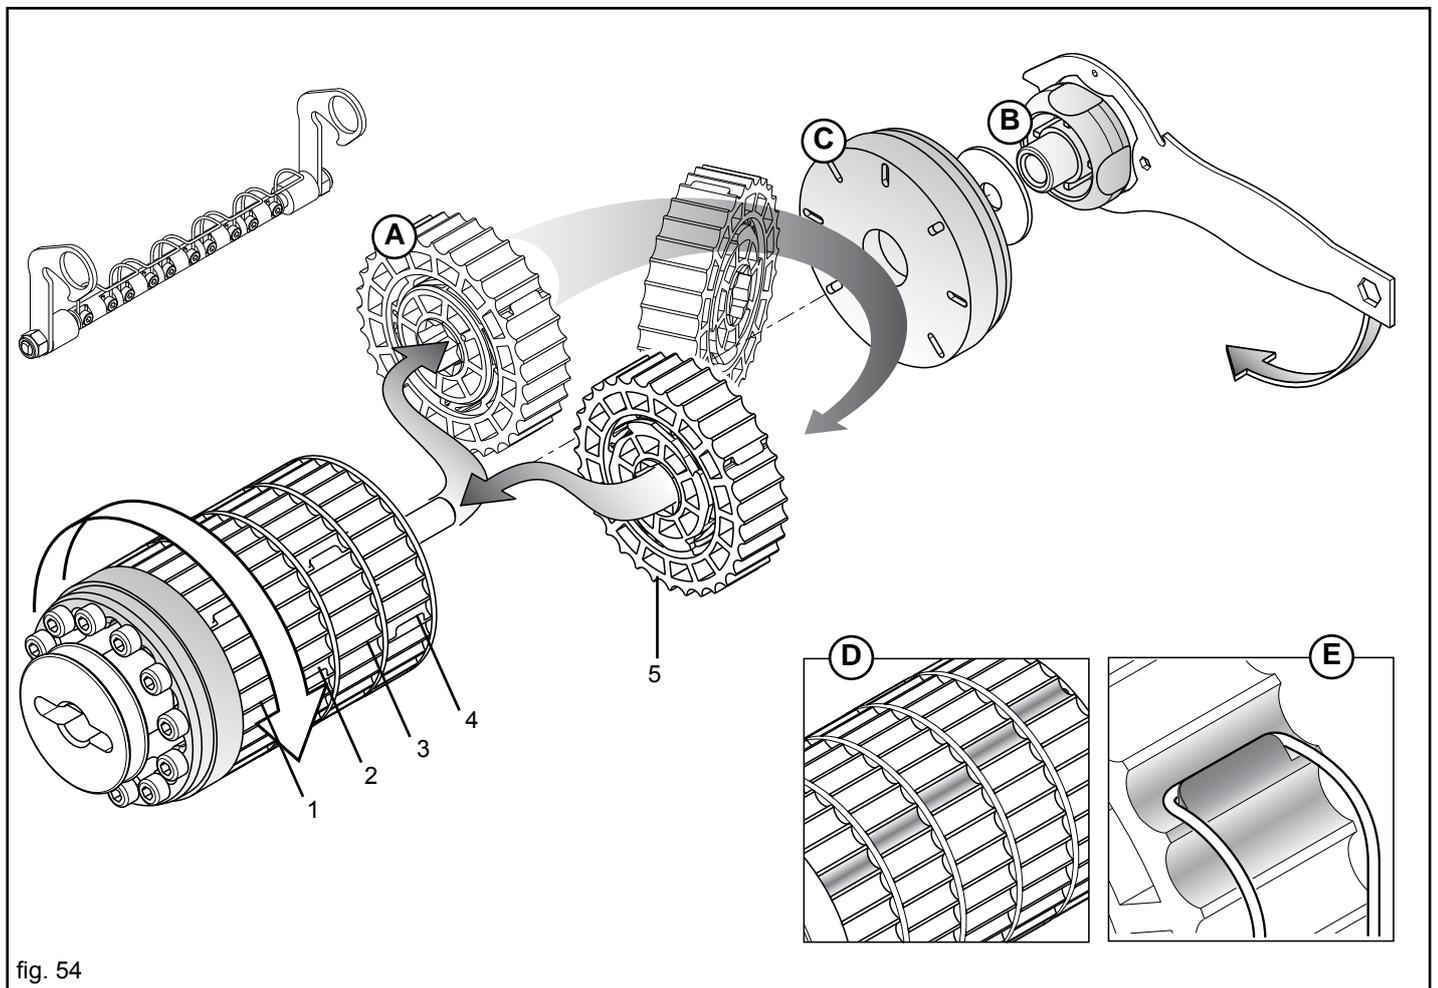

fig. 54
Considering that every section (A, Fig. 54) of the dosing roller distributes 20% of the product contained in roller itself, the number of operating sections can be increased and the gearbox rotation speed reduced to obtain more homogeneous distribution.
First, take the dosing roller off the machine. Then, unscrew the knob (B, Fig. 54) using the supplied wrench and remove the lock nut (C). Extract the section(s) to be activated and put them back in **their positions** (1-2-3-4-5, Fig. 54) turning them by 180°.
When re-assembling the sections, make sure that during operation the dosing grooves of the active sections are staggered from one another (D, Fig. 54). This will give continuity to distribution.
Block the cleaning element in the operating position and make sure that the springs hook the previously excluded sections (E, Fig. 54) preventing their rotation and consequently distribution.